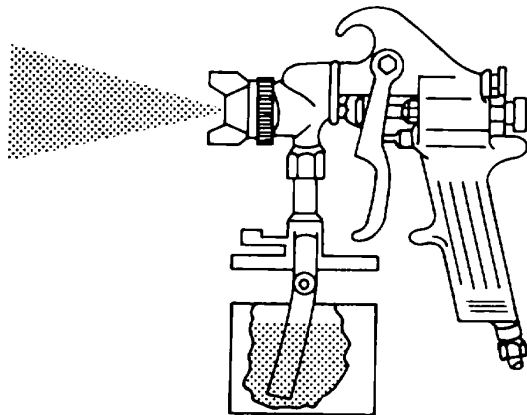

Figure 5-7. Flushing Paint Gun with Thinner or Solvent (Cup)
(1) Paint gun with cup. When the paint gun is used with a cup, proceed as follows (see figure 5-7):